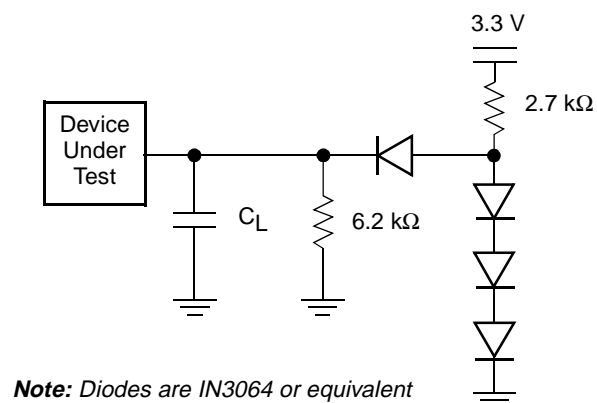

Figure 13. Test Setup
2. See Figure 13 and Table 7 for test specifications